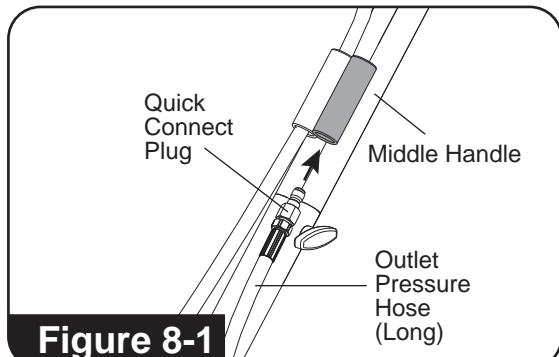
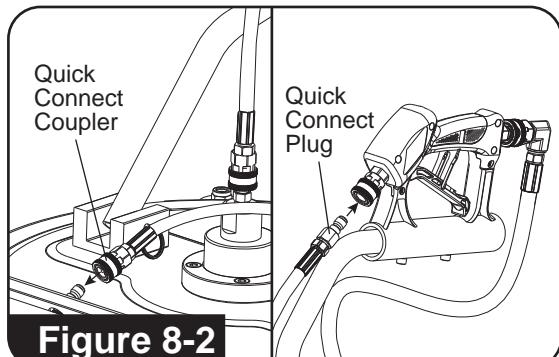

Figure 8-1
Figure 8-2
8. Take the long outlet pressure hose and starting with the quick connect plug end slide it through the bottom of the guide tube on the front of middle handle assembly. Attach it to the other handle and inlet plug on the spray bar. (See Figure 8-1 and Figure 8-2)